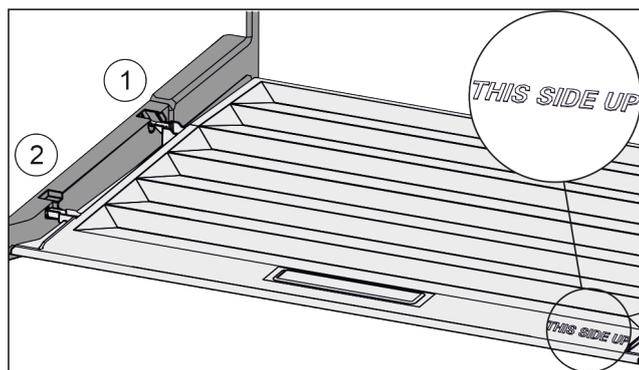

Fig. 33
- ▶ Insert the lip of the cover over the opening of the rear bracket Fig. 33 (1) and click into place Fig. 33 (2).